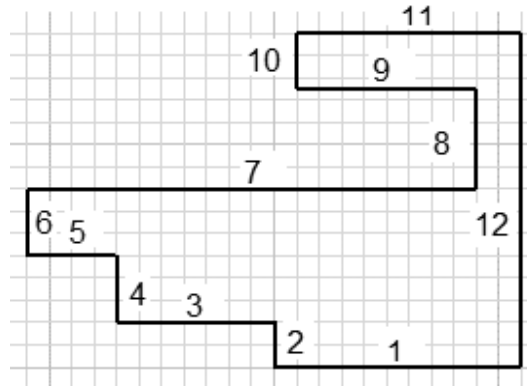

Figure 2-61 Sketch after drawing the lines
- Move the cursor upward in the graphics window. Next, enter **4** in the length input field, press TAB and enter **90** in the angle input field; line 2 is drawn, as shown in Figure 2-61.
2. Select line 8 and then line 9, refer to Figure 2-61; a fillet is created between these lines and the radius of the fillet is displayed in the sketch.
In Figures 2-61 and 2-62, the display of axes and grids have been turned off for a better visibility of the lines of the sketch.